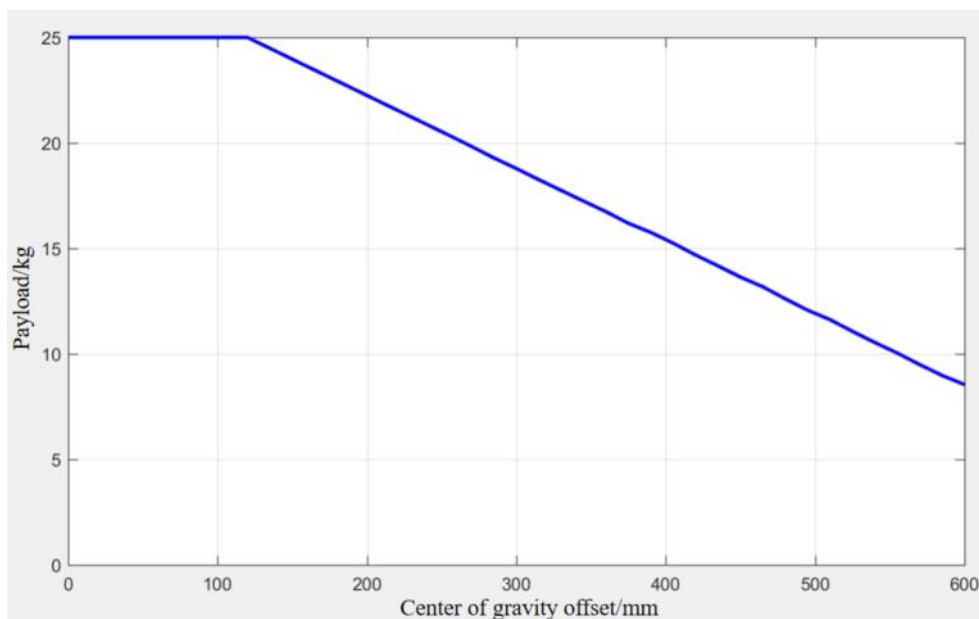

Figure B-10 G25 Payload and Center of Gravity Offset curves
- The relationship curve between the payload of the G25 collaborative robot and the payload center of gravity offset is shown in Figure B-10.